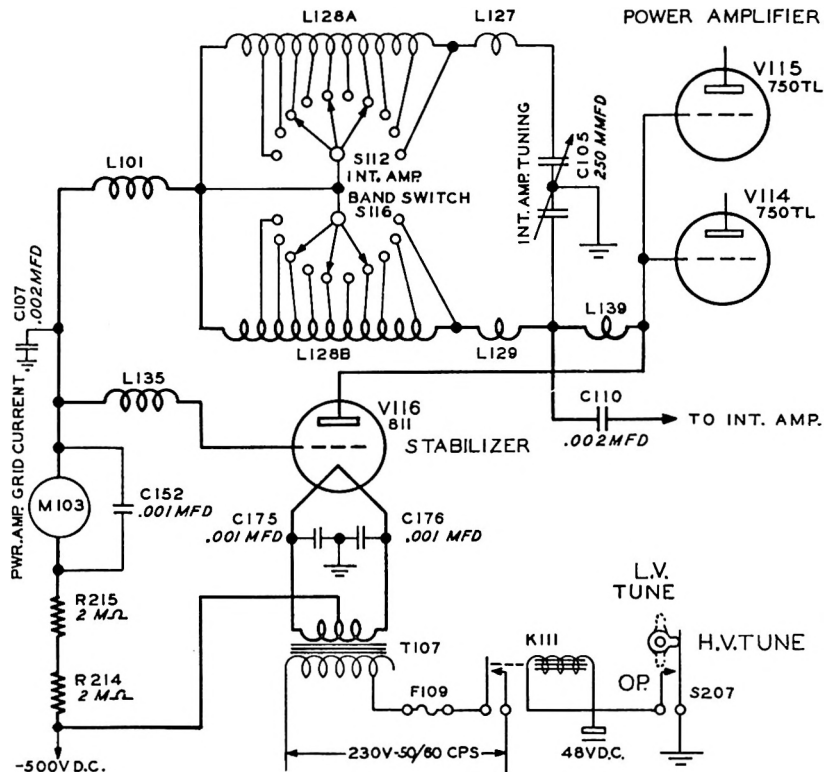

Figure 12. PA Stabilizer Circuit
2.7.5. Power Amplifier Stabilizer. See figure 12. Some of the Type 750TL tubes require stabilization the instant the drive is removed. The instant the key is opened or microphone switch is released the grid voltage on the tubes is such that unless the grid circuit is loaded the plate current of the power amplifier tubes will rise to a value that will damage the tubes, if not stabilized.